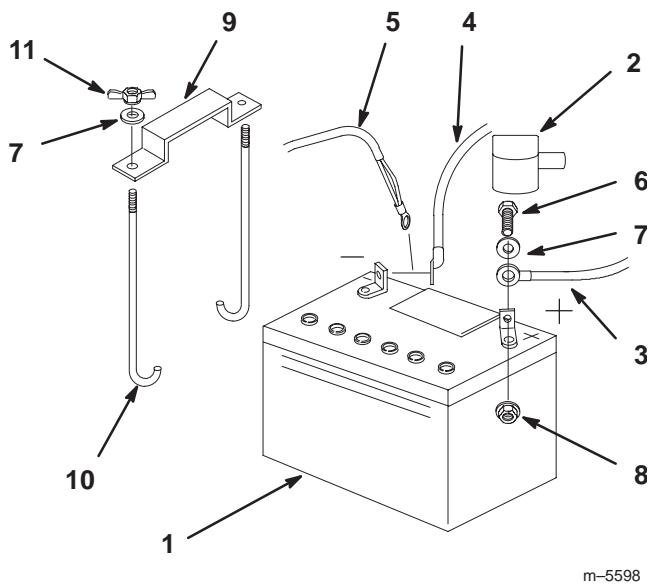

Figure 55
1. Position battery in tray with terminal posts toward the engine (Fig. 55).
4. Secure cables with 2 bolts (1/4 x 3/4 in.), 2 washers (1/4 in.), and 2 locknuts (1/4 in.) (Fig. 55).
6. Secure battery with J-bolts, hold down clamp and 2 washers (1/4 in.), and 2 wing nuts (1/4 in.) (Fig. 55).
3. First disconnect the negative battery cable and ground wire from the negative (–) battery terminal (Fig. 55).
4. Slide the red terminal boot off the positive (red) battery terminal. Then remove positive (red) battery cable (Fig. 55).
5. Remove both wing nuts (1/4 in.) securing the battery clamp (Fig. 55).